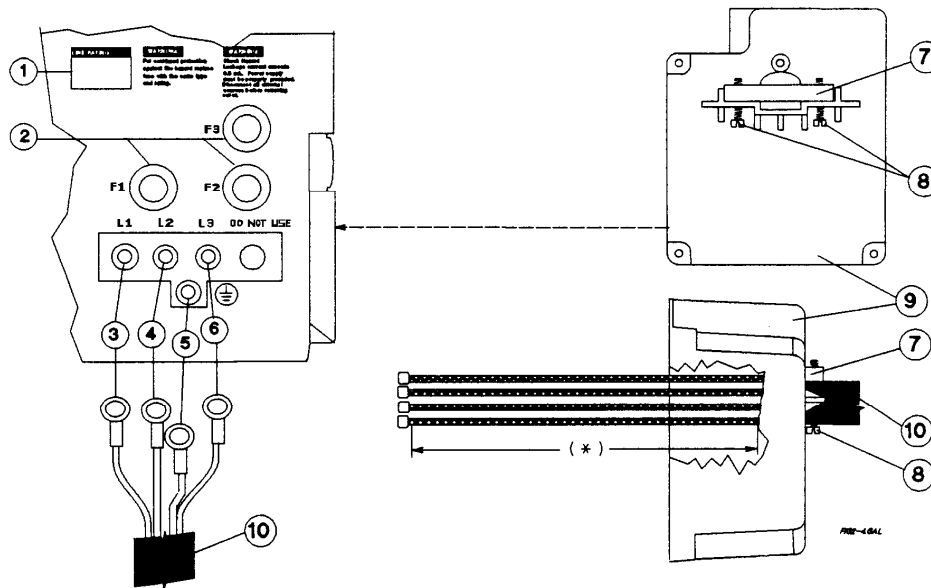

Figure 2-5. Connecting the Series 668xA Power Cord
See Figure 2-5 and proceed as follows:
1. Check the line fuses (②, Figure 2-5) as follows:
- a. Examine the **LINE RATING** label (①) on the rear panel.
- b. Unscrew the line fuse caps (②) from the rear panel and verify that all fuses are as specified on the label. Replace the fuses.
2. Open the line clamp (⑦) and insert the line cord (⑩) through the opening.
3. Position the line cord so that the clamp is near the end of the outside insulating sheath. Tighten the screws (⑧) securing the clamp. Torque the screws using 2 to 4 inch-pounds (0.23 to 0.45 Newton meters).
- * Phase 1 (③) to L1. Phase 2 (④) to L2. Phase 3 (⑥) to L3.
5. Secure the ground wire (⑤) to the chassis earth ground stud.